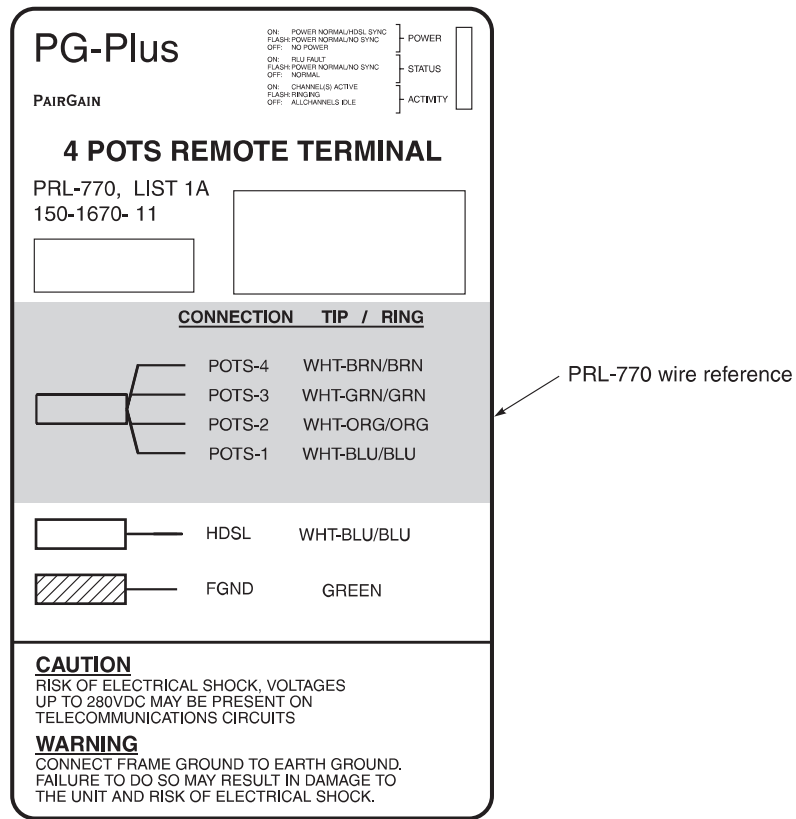

Figure 5. PRL-770 Reference Label
5.4 PRL-770 Reference Label. During installation, refer to the PRL-770 reference label (Figure 5) affixed inside the Customer Access door. The middle section of the PRL-770 reference label identifies the Frame Ground and HDSL Tip and Ring wires as well as the wire color code for the four POTS lines.